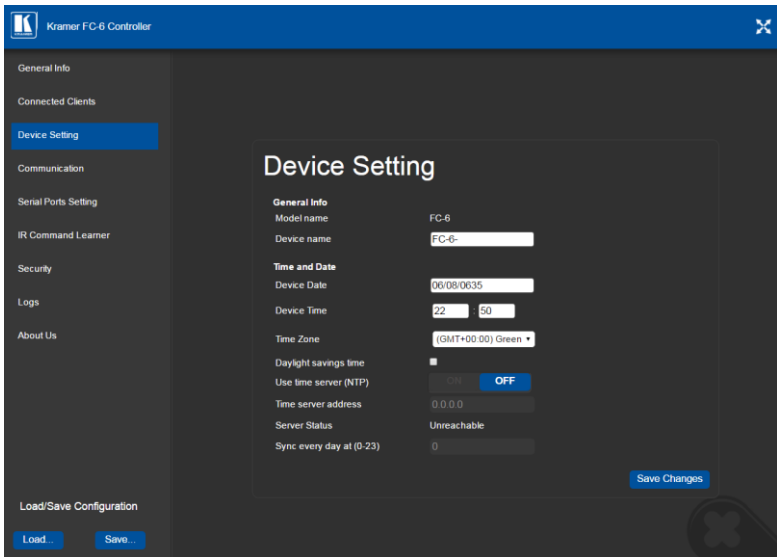

Figure 12: Device Settings Page
1. Browse to the Device Settings page by clicking Device Settings. The Device Settings page is displayed as shown in Figure 12.